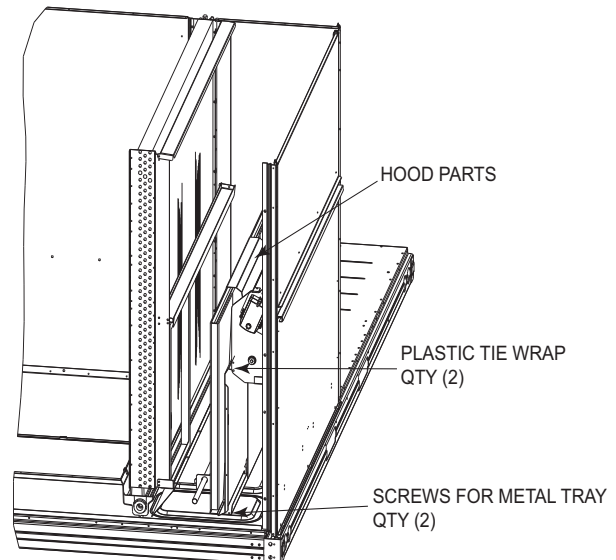

Fig. 28 — Two-Position Damper Hood Package Location (Size 16)
3. Locate the (2) screws holding the metal tray to the basepan and remove. In order to remove the screws, it may be necessary to remove the panel underneath the two-position damper. Remove the two screws. Locate and cut the (2) plastic tie-wraps securing the assembly to the damper. (See Fig. 28.) Be careful to not damage any wiring or cut tie-wraps securing any wiring.